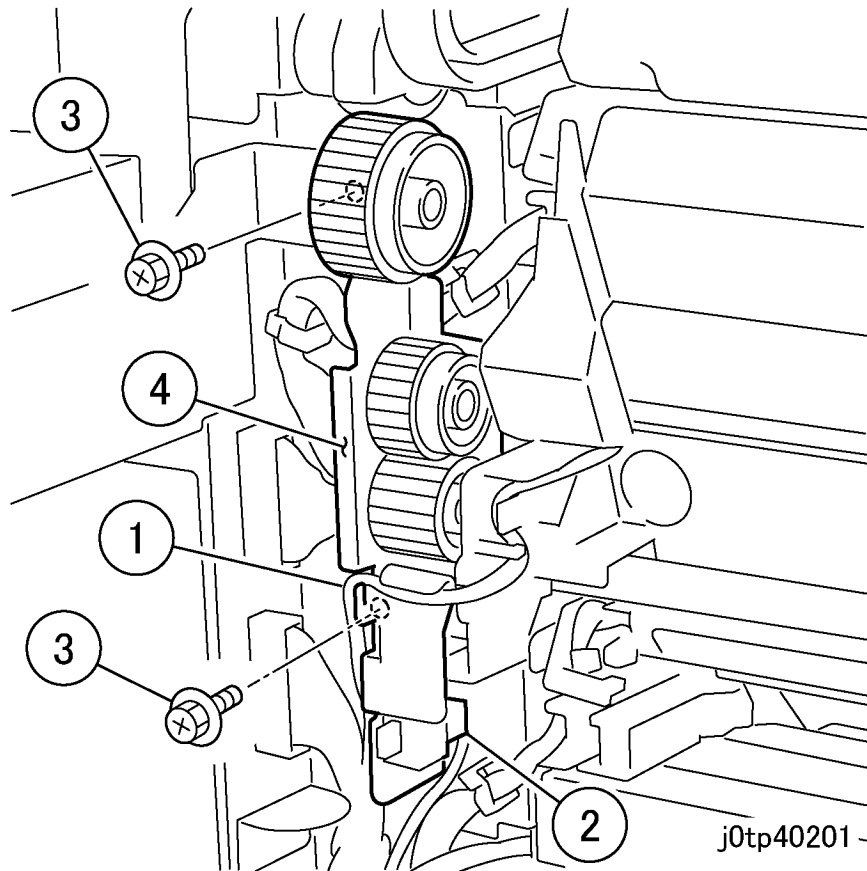

Figure 2 Removing the Gear Assembly (j0tp40201)
6. Remove the Gear Assembly. (Figure 2)